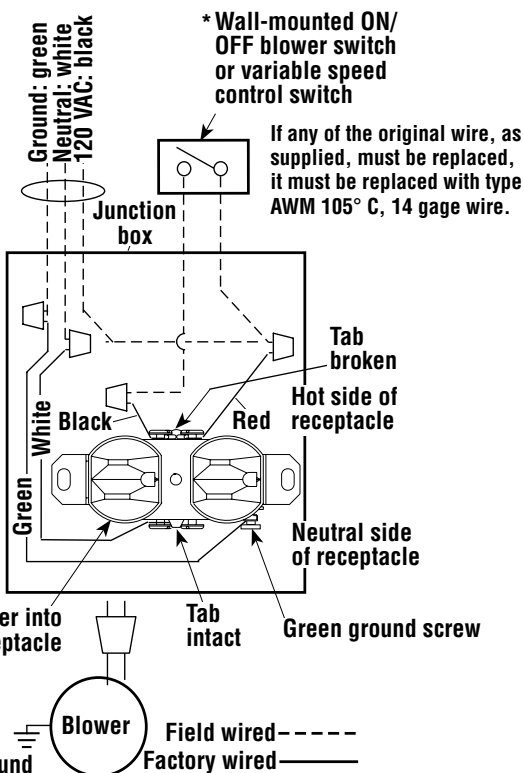

Figure 9 - 120 V, 60 Hz, 1 PH Blower Control Circuit Wiring (Direct Vent Appliances)
Route a 3-wire, 120Vac power line to the ON/OFF switch (FBK-100 kits) or variable speed control (FBK-200 kits) as shown in **Figure 9**. Then route the wires to the unit's junction box. Remove the receptacle by removing the two securing screws. Connect the supply wires to the receptacle (**Figure 9**), ensuring that the polarity (as determined by the colors of the wires) is exactly as shown. Reinstall the receptacle.
9. Route a 3-wire, 120 Vac power line to the ON/OFF switch (FBK-100 kits) or variable speed control (FBK-200 kits) as shown in **Figure 9**. Then route the wires to the fireplace junction box. Remove the receptacle by removing the two (2) securing screws. Connect the supply wires to the receptacle (**Figure 9**), ensuring that the polarity (as determined by the colors of the wires) is exactly as shown. Reinstall the receptacle.
10. Plug the blower cord into the switched (black wire) receptacle (**Figure 9**).